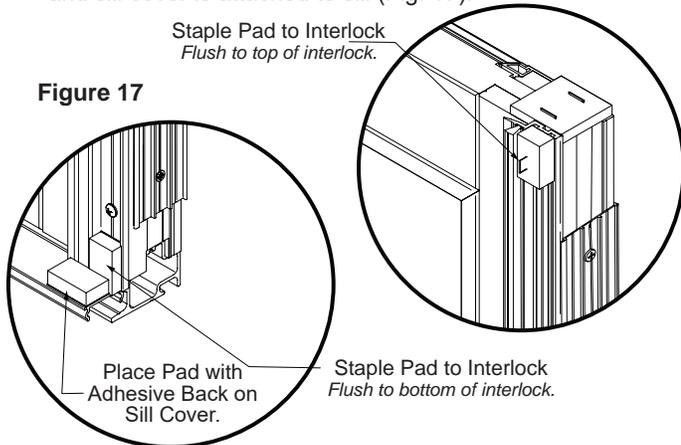

Figure 17
19. Attach dust pads after stationary panel is installed to frame and sill cover is attached to sill (Fig. 17).